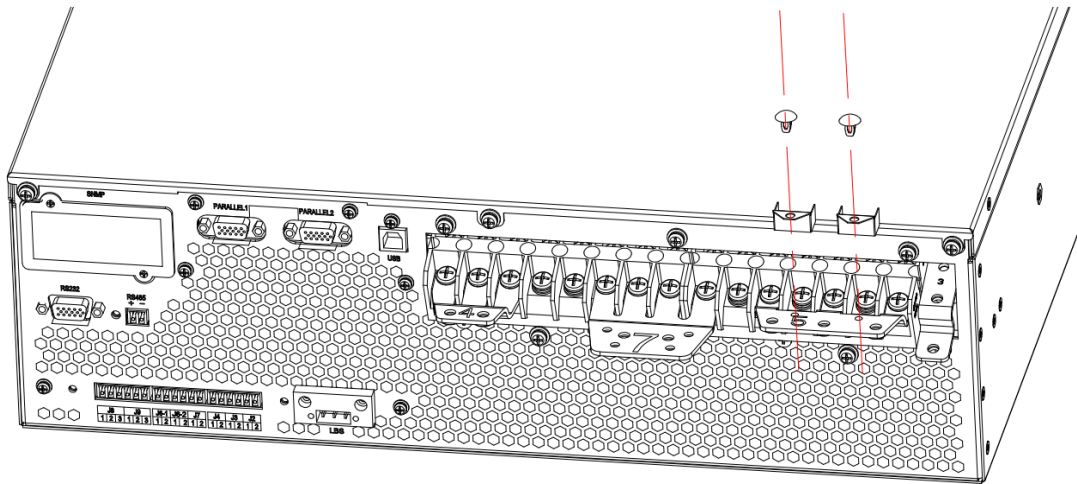
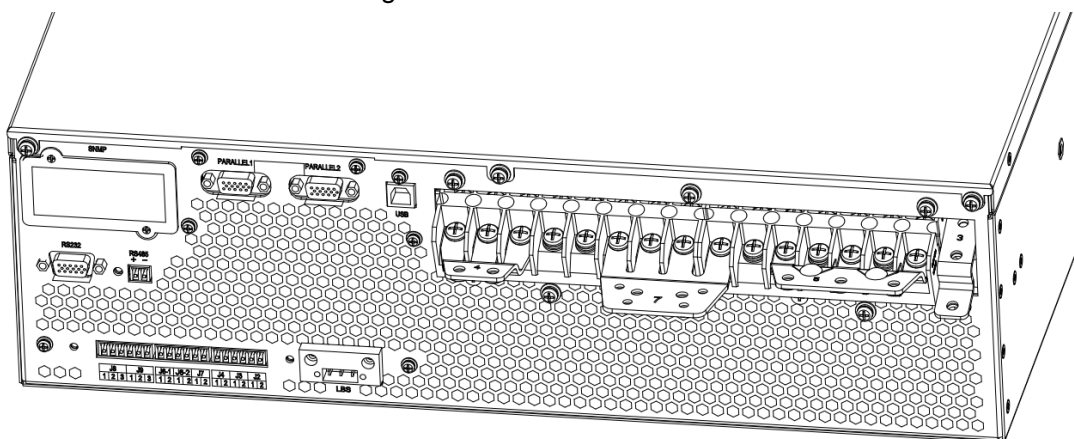

Fig. 3-19 Fix insulation film
Fig. 3-20 Graphic of insulation film fixed
3. In Figure 3-19, mount the insulating film (accessory) to the No.5 copper bar, and fixed in the corresponding position with the plastic rivet, as shown in figure 3-20.